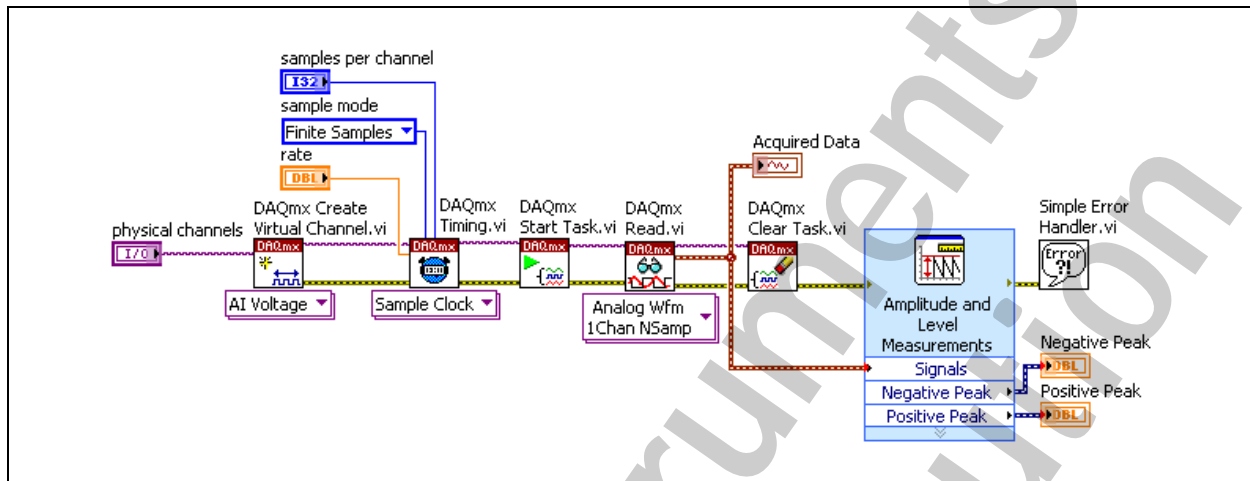

Figure 3-9. Finite Buffered Acquisition with Analysis VI Block Diagram
2. Add waveform analysis to the finite acquisition by analyzing the data after it has been acquired. Modify the block diagram, as shown in Figure 3-9.